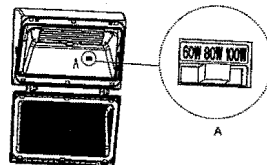

Fig. 17
13. Adjust the power switch to the needed wattage.(Fig. 17)